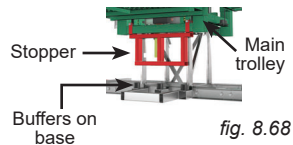

fig. 8.68
- 30- To avoid crushing the cable trolley when bringing the unit down to base level, bolt the stopper (fig. 8.68) under the main trolley, in line with the buffers on the base.